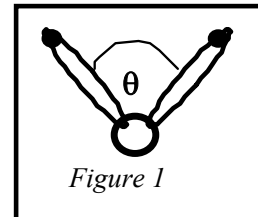

Figure 1
Each of the anchor systems examined in the lab is designed to have a rope passed through the carabiner when climbing as shown in Figure 1. Figure 2 illustrates a simpler system that does not use a carabiner. What are the advantages and disadvantages of this carabiner-less anchor system? Explain your answer according to the criteria examined in this lab and any other criteria you might think of.
- Adjust the suction cups until the angle between forces is  $60^\circ$ . Keep this angle at  $60^\circ$  throughout the experiment. (See Figure 1)
Each of the anchor systems examined in the lab is designed to have a rope passed through the carabiner when climbing as shown in figure 1. Figure 2 illustrates a simpler system that does not use a carabiner. What are the advantages and disadvantages of this carabiner-less anchor system? Explain your answer according to the criteria examined in this lab and any other criteria you might think of.